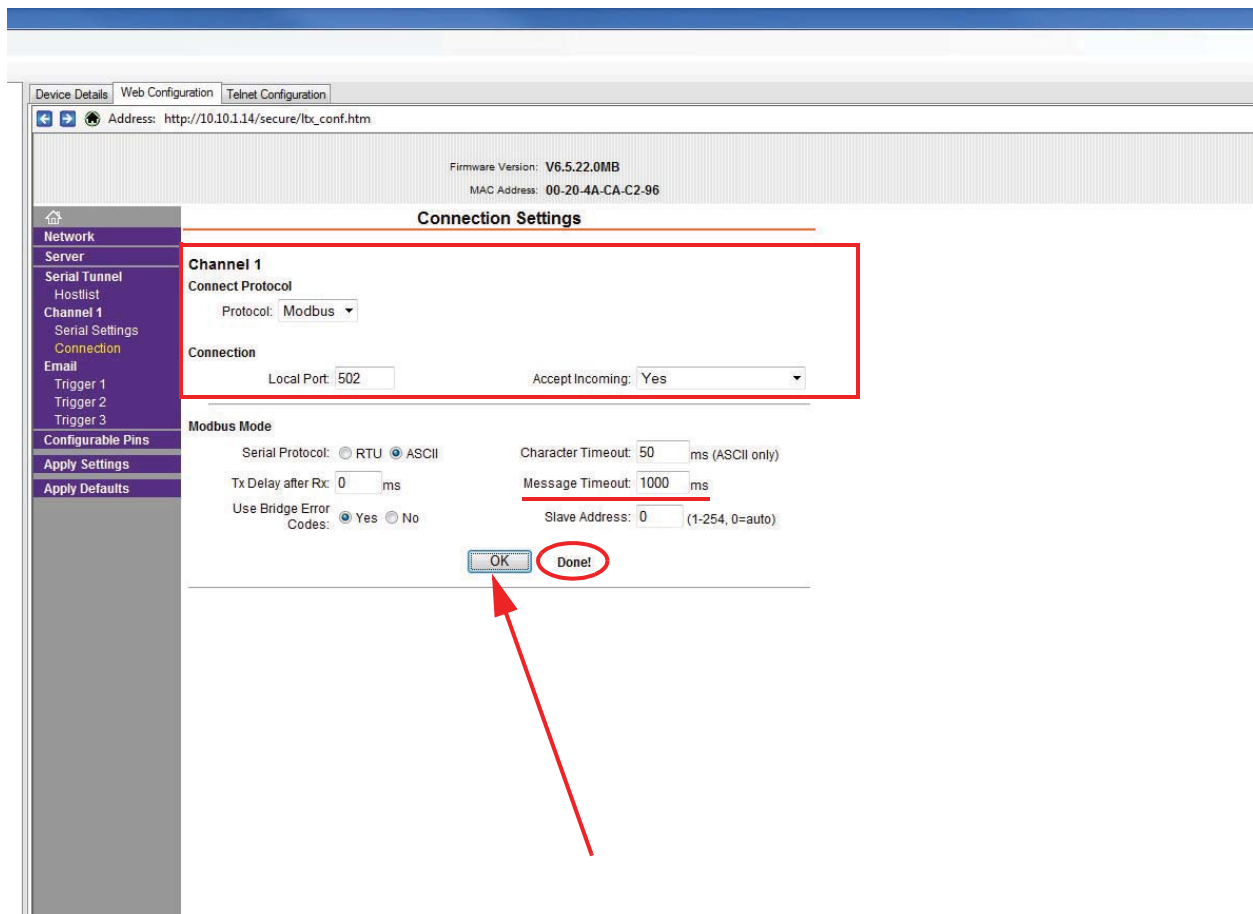

Figure 4-11 Connections
- Press the **OK** button. Connections Settings will display **Done!** as shown in Figure 4-11.